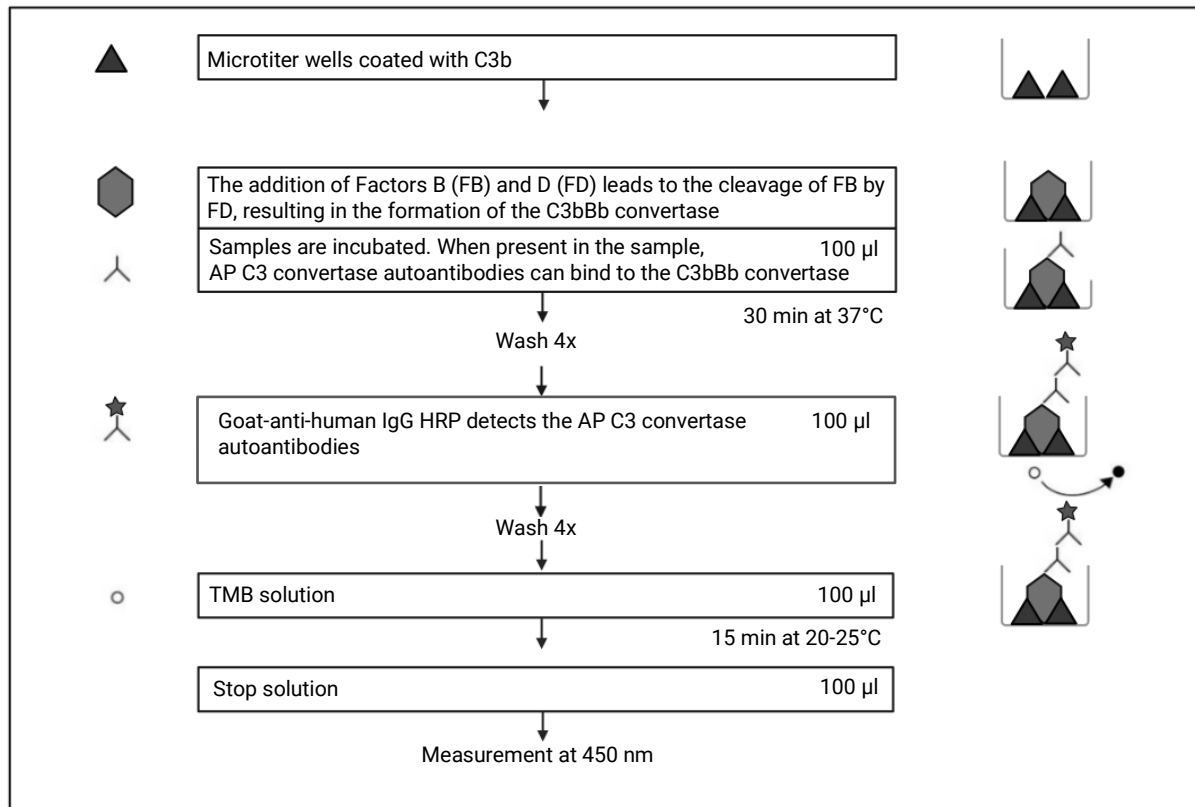

Figure 1. Schematic overview assay workflow
- The AP C3 convertase autoantibody ELISA kit is a qualitative enzyme-linked immunosorbent assay with a working time of ~1½ hours. See Figure 1 for a schematic overview of the assay workflow.